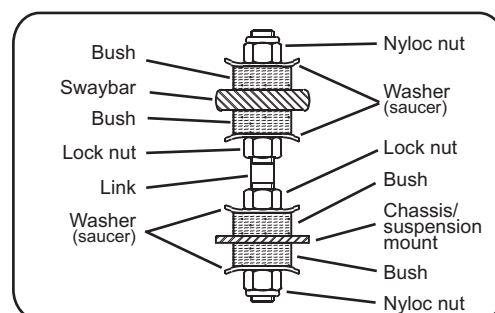

Fig.1. Whiteline double pin type link.
- For swaybars supplied with new links and hardware, refer to Figures 1 to 4 for bushing type endlink and their correct assembly. Refer page 2 for Ball-style.
Caution: Do not over tighten swaybar pin type link bushes, refer Fig 1. Nuts should be tightened until washer meets the bush & stops rotating. Then tighten a further $\frac{2}{3}$ of a turn. Over tightening compresses and pre-loads the polyurethane bush which reduces articulation and may cause premature failure.